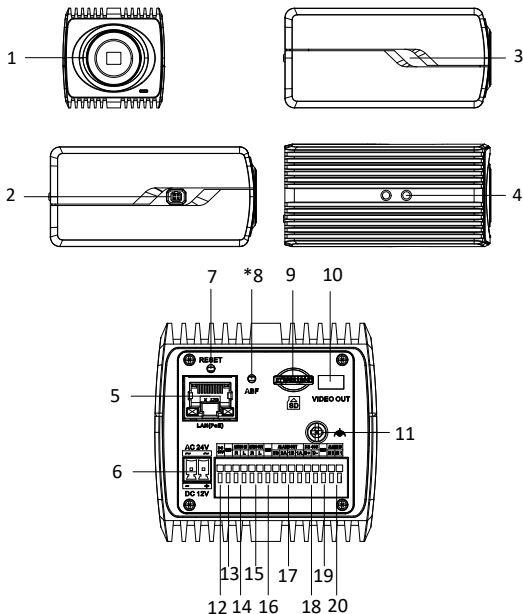

Figure 1-1 Overview
- 1). For network, alarm input and output, and audio input and output, plug corresponding plugs to the rear panel of the camera. See Figure 1-1.